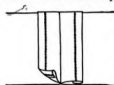

FIGURE 87
*Turned* (Figure 87). — Press the seam open and press the raw edges under the fold toward the seam. Stitch evenly with the machine along the folded edges.